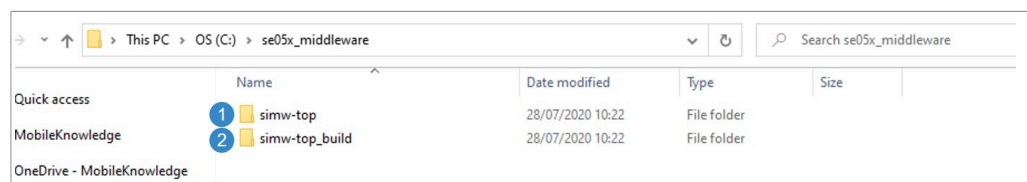

Figure 26. SE05x middleware project structure
4. Your project directory should now contain two folders: a (1) `simw-top` folder and a (2) `simw-top_build` folder as shown in Figure 26: